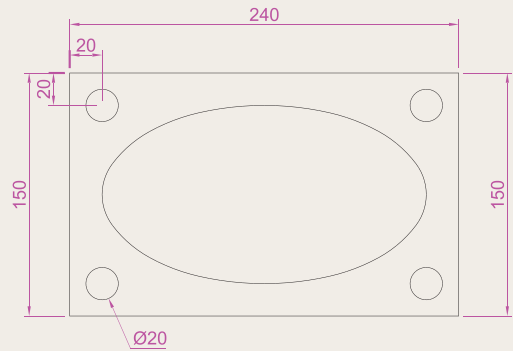

Fig. 3.48 Exercise 4
- With the **Line**, **Circle** and **Ellipse** tools construct the drawing shown in Fig. 3.48.